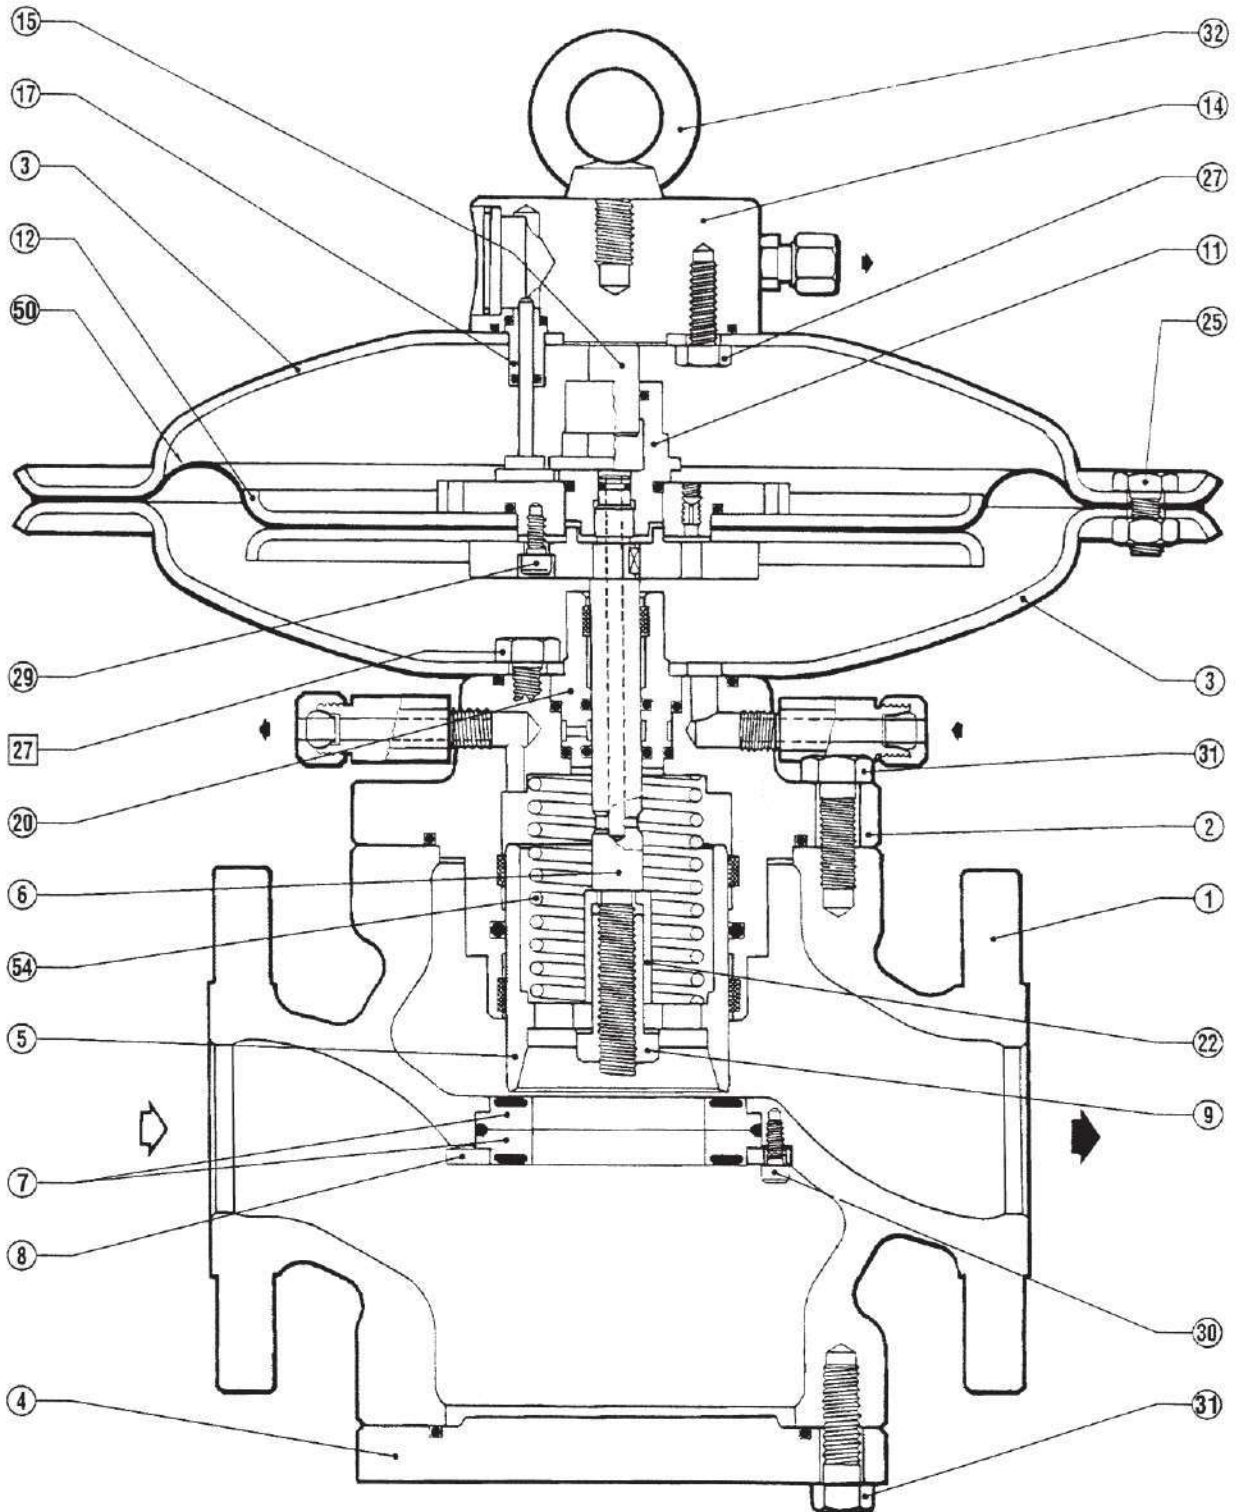

Fig. 21
6.1 JB ROMBACH 12P REGULATOR (FIG. 21, 22 and 23)
(The positions refer to fig. 21)